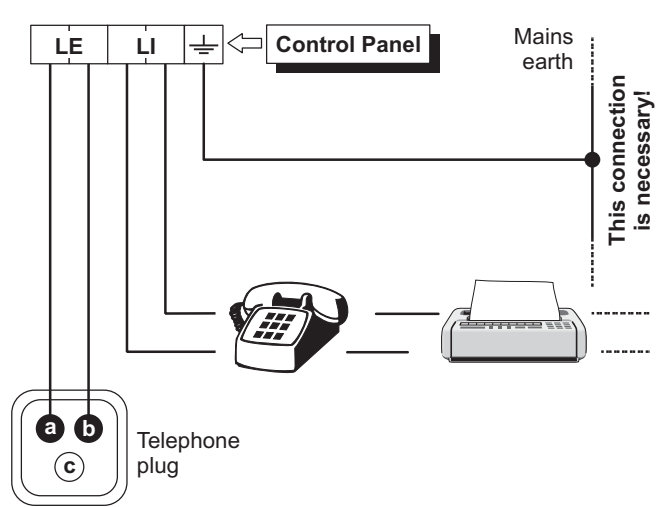

Figure 18 Connecting the Telephone Line to the Control Panel.
■ Connecting Roller-Blind and Vibration Detectors Zones 1 through 8 of ABSOLUTA support Roller-blind and Vibration detectors. The zones must be programmed respectively with either the Vibration or Roller-blind option (refer to the 'PROGRAMMING', Hardwired zones, in this Manual), and can be set up as **Normally Closed, SEOL** or **DEOL** supervision. The wiring diagram in Figure 18 shows a typical connection.
In order to allow use of the Dialler, Digital communicator and Teleservice facilities, the telephone line must be connected to terminals [LE], as shown in Figure 18.